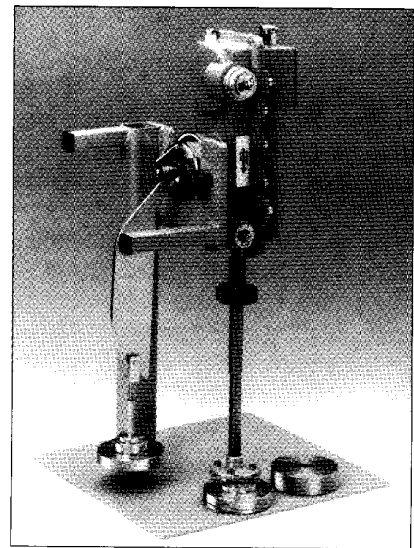

Figure 3.2a Calibration stand and weights
- Mount the transmitter on Valmet's PULP-EL calibration and servicing stand. The stand must rest on a horizontal and level base. See Figures 3.2a and 3.2b.
- Take out the PULP-EL calibration weights; see Fig. 3.2a.
4. Mount the transmitter on the calibration stand as shown in Figure 3.2a.